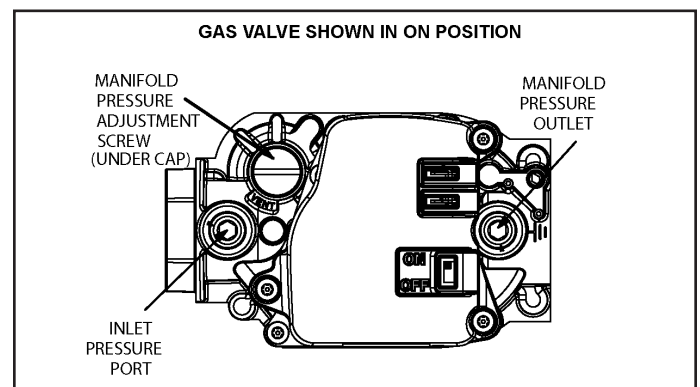

Figure 73.
See Figure 73
6. Move gas valve switch to OFF. See Figure 73.
8. Move gas valve switch to ON. See Figure 73.
When testing supply gas pressure, use the 1/8" N.P.T. plugged tap or pressure post located on the gas valve to facilitate test gauge connection. See Figure 73. Check gas line pressure with unit firing at maximum rate. Low pressure may result in erratic operation or underfire. High pressure can result in permanent damage to gas valve or overfire.